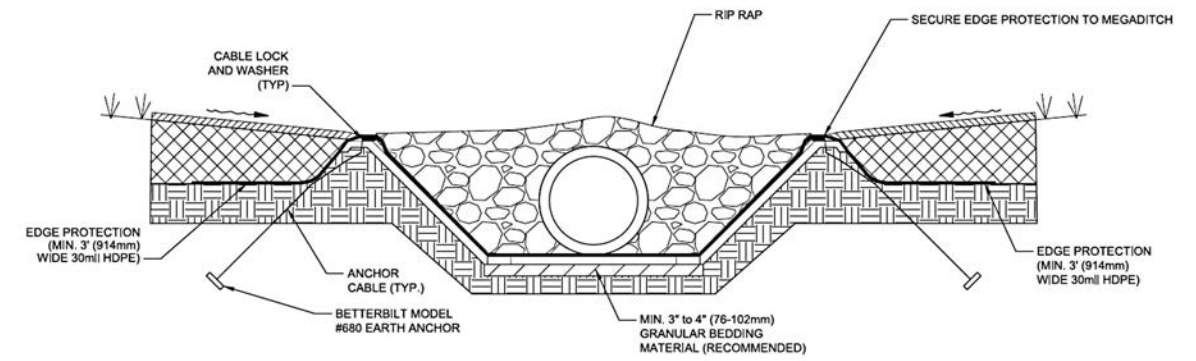

Figure 21
- Storm sewer culvert with rip rap, see **Figure 21**.